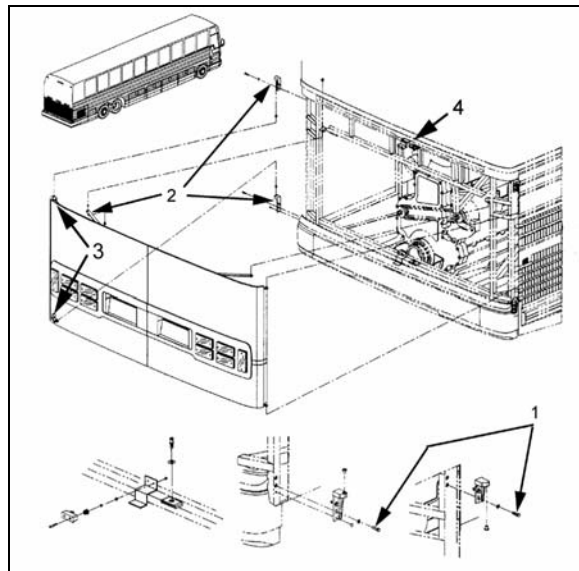

FIGURE 43: ENGINE COMPARTMENT DOORS
1. Loosen the bolts, (1, 2 Fig. 43) holding the hinge to the vehicle structure to shift the door "UP or DOWN".
2. Loosening the bolts (3, Fig. 43) allows the door to be shifted "LEFT or RIGHT" and "IN or OUT".
To adjust the latch mechanism (4, Fig. 43) and the striker pin: